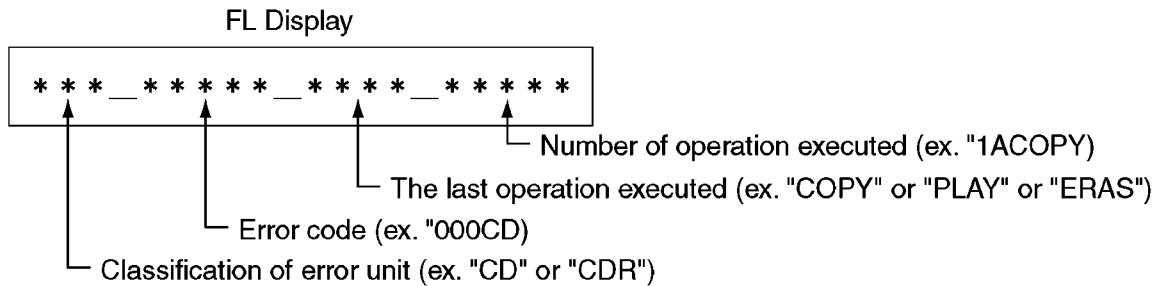

Fig. 12-3
2. The running operation is immediately stopped by pressing any of effective input by key, the remote controller, DCS operation. When running operation is interrupted by the "STOP" key or error, following message will be displayed continuously until the power source of the model is shut off. (Refer to Fig.12-3.)